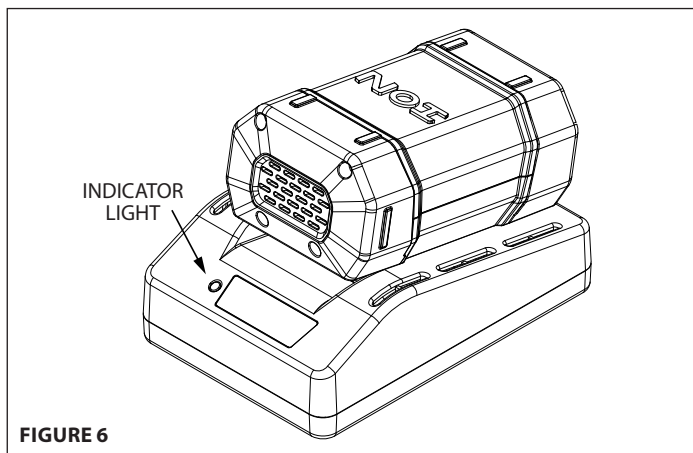

FIGURE 6
3. The charge indicator light should blink green. **SEE FIGURE 6.**